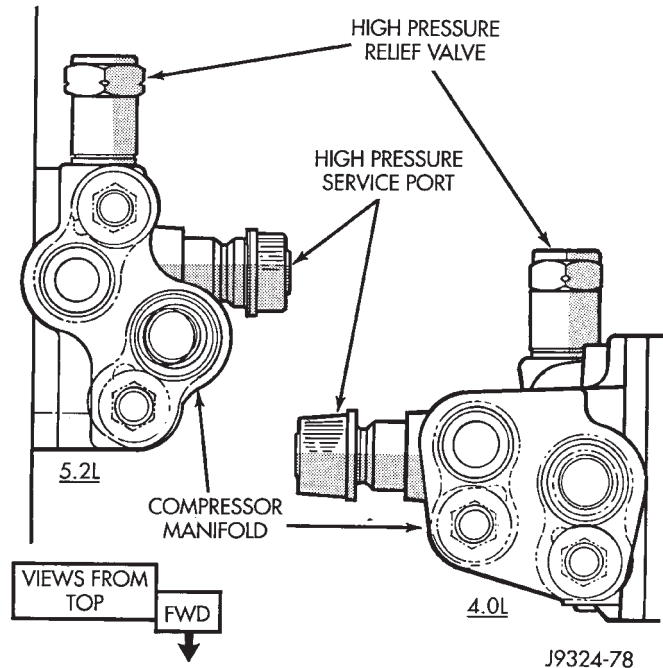

Fig. 33 High Pressure Relief Valve - Typical
- (1) Disconnect and isolate the battery negative cable.
- (2) Recover the refrigerant from the refrigerant system as described in this group.
- (3) Turn the relief valve counterclockwise to remove it from the compressor manifold (Fig. 33).
- (4) Either install a plug in, or tape over the open fitting on the compressor manifold.